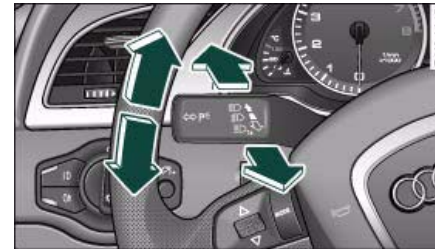

Fig. 56 Turn signal and main beam headlight lever
- Move the lever all the way up to indicate right, or all the way down to indicate left ⇒ fig. 56.